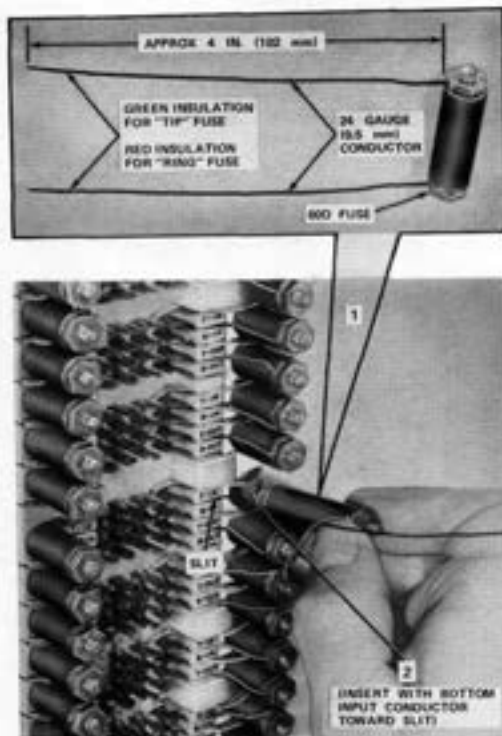

Fig. 87—Replacing Fuse
10.11 To replace a fuse in the 191A1-20 protector, follow the steps indicated in Fig. 87 and 88.